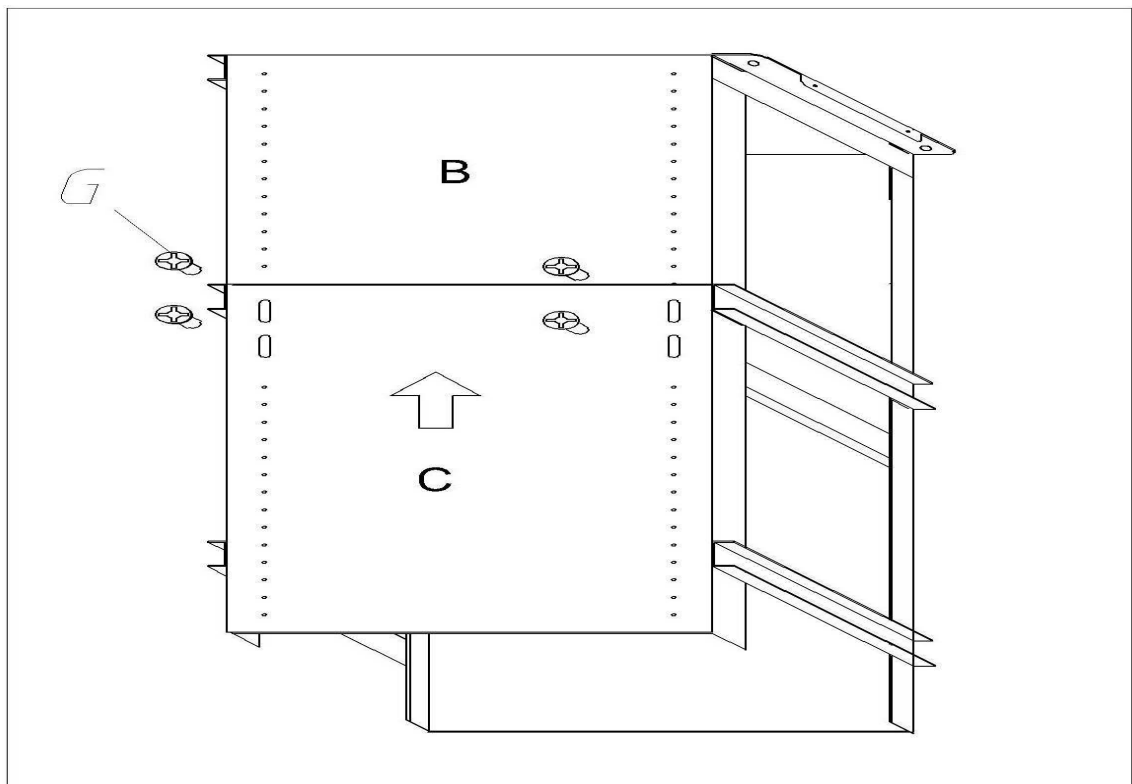
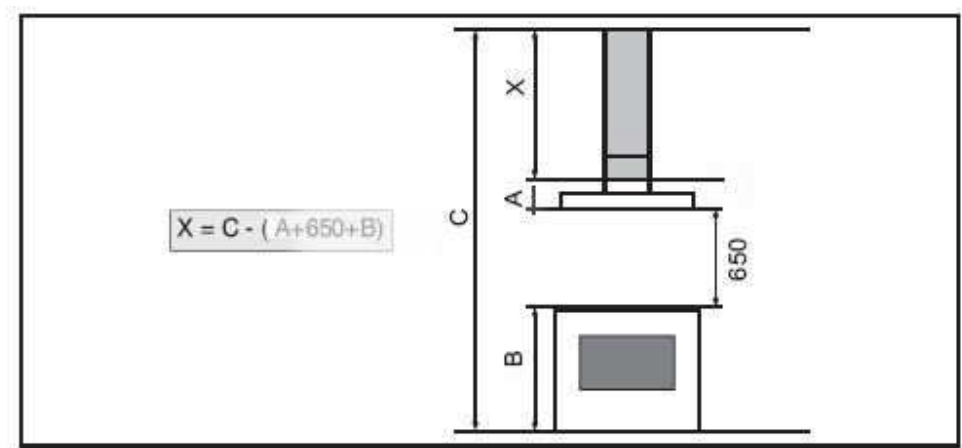

Fig.4
Fig.5
7. Adjust the height (Fig.5) by referring to the amounts indicated in and position it using the 8 unit screws **G** that are supplied (Fig.4).